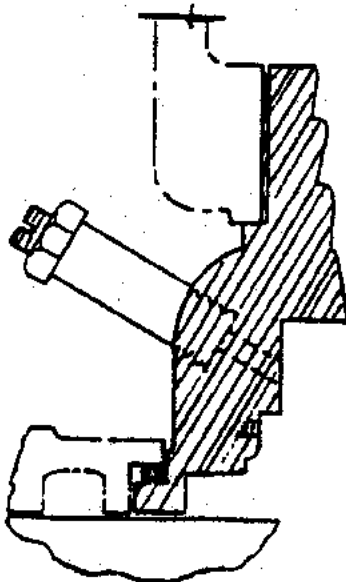
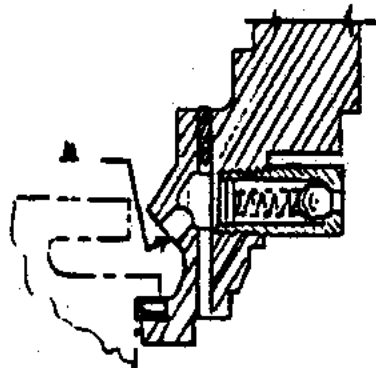

Figure 1
Figure 2
The guide ring (22) (Figure 4) was redesigned in 1955 adding several holes to allow passage of oil from the seal housing space to the journal bearing during operation when the inner carbon ring is not in contact with the seal ring. Prior to this change a relief valve (Figure 1) or check valve (Figure 2) arrangement were used to relieve pressure from the seal assembly housing.
If an old style guide ring is replaced, the relief device must be removed and hole plugged to prevent low seal oil pressure. If the adjustable type (Figure 1) is removed plug the 1/2" opening with a 1/2" pipe plug. If the check valve type (Figure 2) is used, tap and plug the 1/8" hole in behind the valve as well as the 1/2" opening. Failure to plug these openings will allow oil to bypass the bearing.
On the 30 Series contact seal housing, a small bleed hold (A Figure 2) was provided until October 1964. If there is adequate seal oil housing pressure and the seal end journal bearing temperature is not excessive, then the bypass hole need not be plugged. However, if oil loss and/or low seal oil housing pressure are experienced, check for a bypass hole and plug.